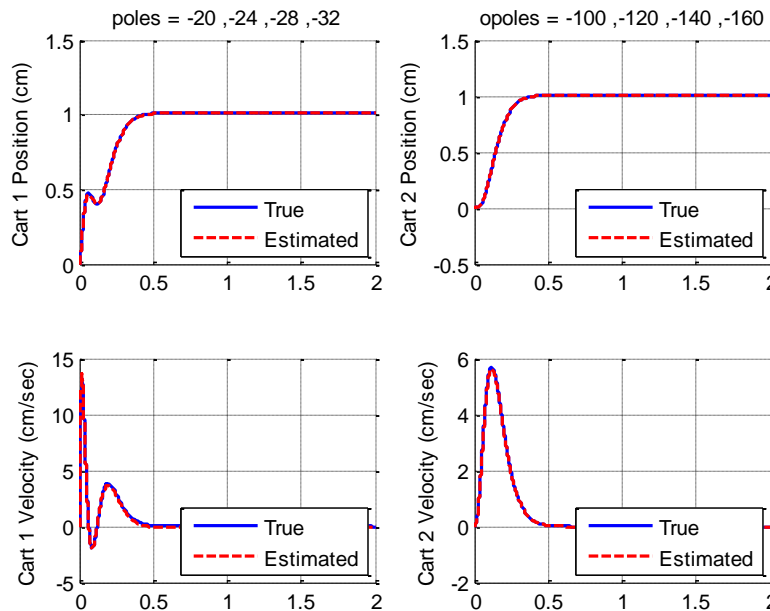

Figure 15: Full order observer for a 2DOF system with a bad model
6. Now place the state feedback poles at twice their original values (at $2*p$), and change the observer poles to be ten times their original values ($10*p$). You should get results like those in Figure 15. Note that if we do not change the pole locations, we will get an unstable system.